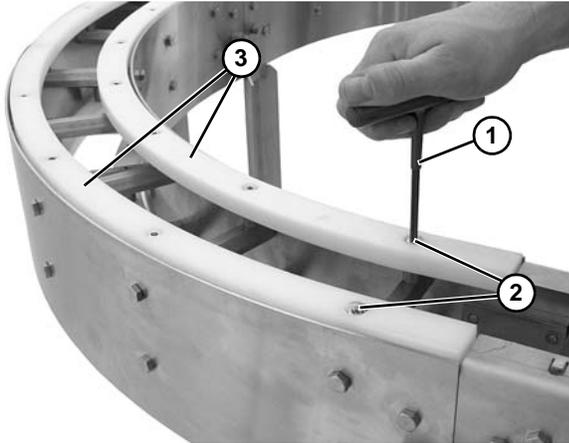

Figure 31
2. Using an allen wrench (**Figure 31, item 1**), remove all socket head screws (**Figure 31, item 2**). Remove upper wear strips (**Figure 31, item 3**).